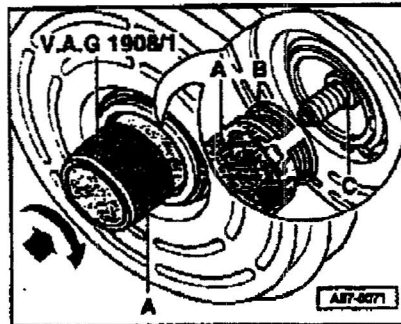

Fig. 2 Shaft seal (with collector ring) removing and installing
- ◆ Removing and installing ⇒ Fig. 2